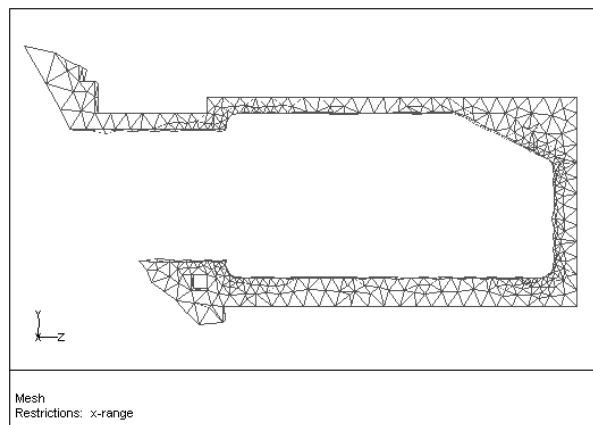

Figure 8.18: Remeshed Cavity
8. Examine the remeshed cavity by displaying the cells in the plane  $x = -0.37$  (Figure 8.18).
*In Figure 8.18, you can see that the cavity has been remeshed with tetrahedra.*